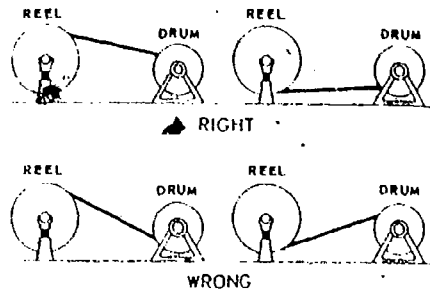

Fig 7-7. Right and wrong ways of transferring wire from reel to winch drum.
b. Transferring. If you have occasion to transfer wire directly from a reel to a winch drum or to another reel, pass the wire from top to top or from bottom to bottom as shown in the upper view of figure 7-7.